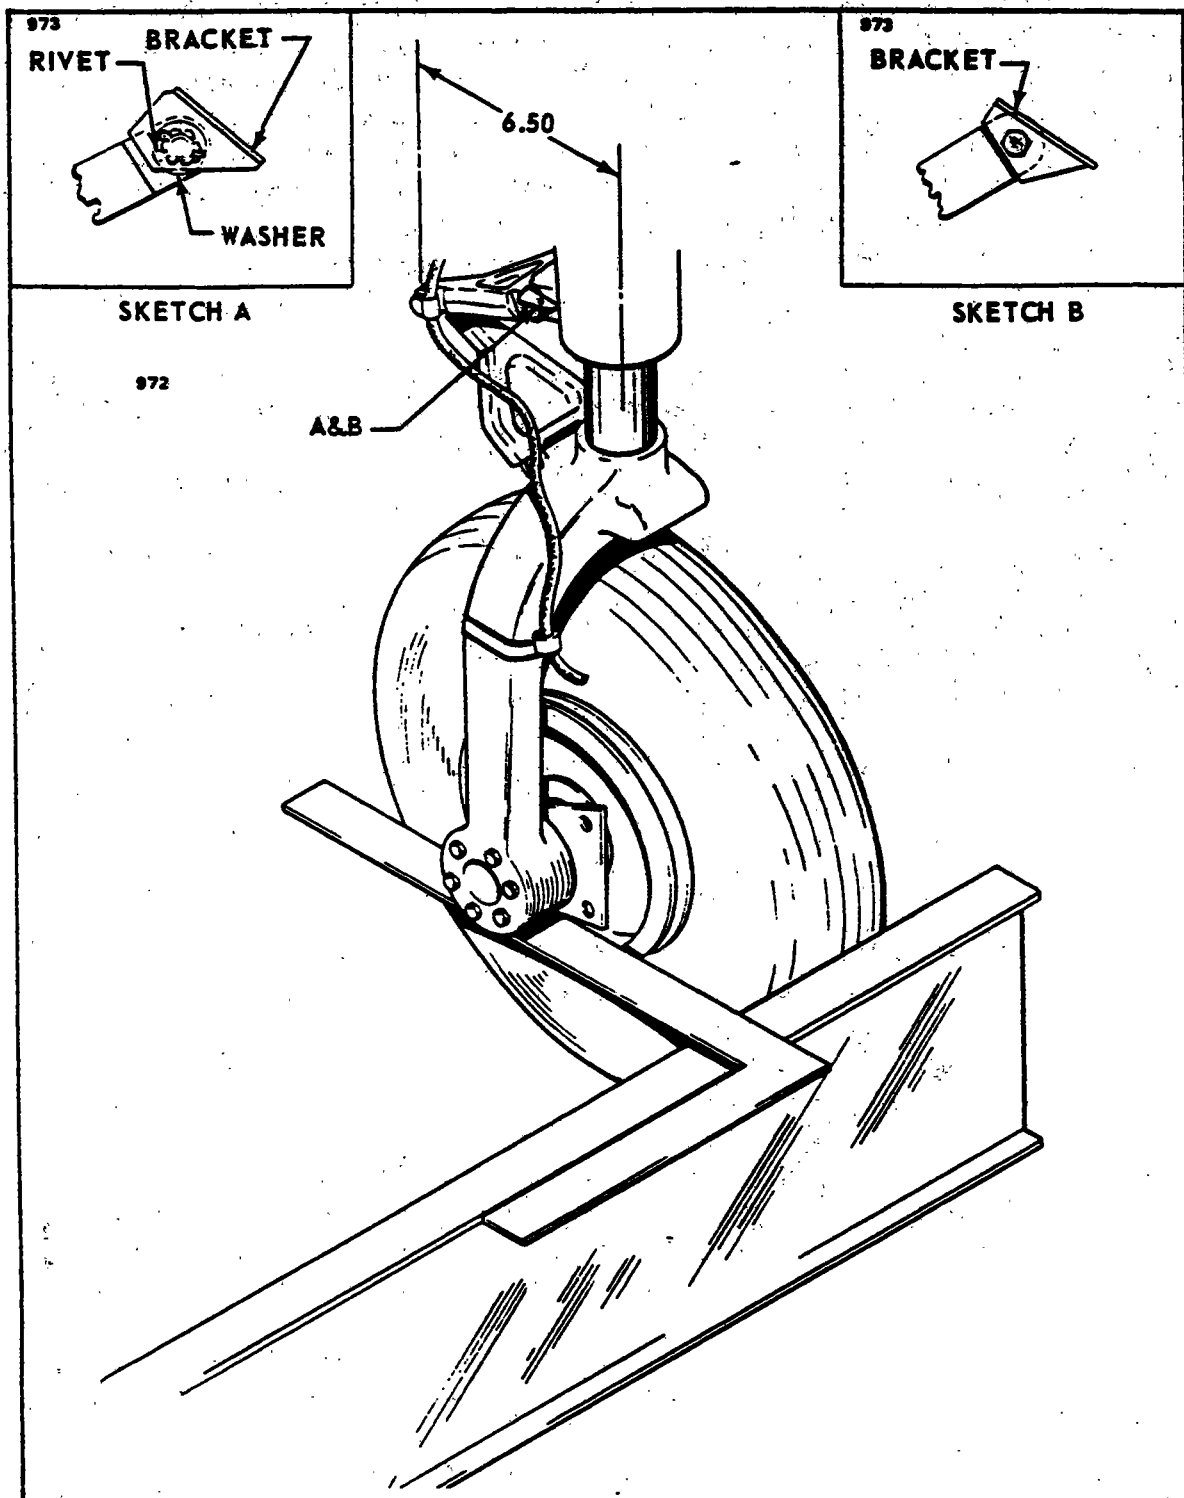

Figure 7A-10. Aligning Main Gear
a. Place a straightedge no less than twelve feet long across the front of both main landing gear wheels. Butt the straightedge against the tire at the hub level of the landing gear wheels. Jack the airplane up just high enough to obtain a six and one-half inch dimension between the centerline of the strut piston and the centerline of the center pivot bolt of the gear torque links. (Refer to Figure 7A-10.) Devise a support to hold the straightedge in this position.
b. Set a square against the straightedge and check to see if its outstanding leg bears on the front and rear side of the brake disc. (It may be necessary to remove the brake assembly to have clear access to the disc.) (Refer to Figure 7A-10.) If it touches both forward and rear flange, the landing gear is correctly aligned. The toe-in for the main landing gear wheels is $0 \pm 1/2$ degrees.